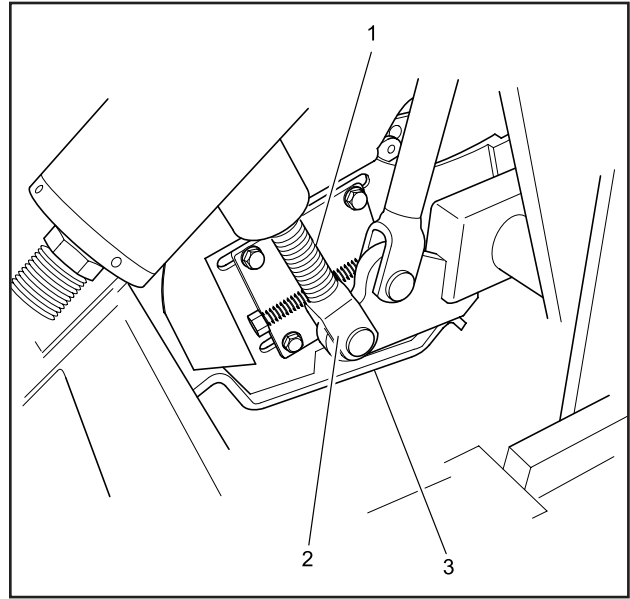
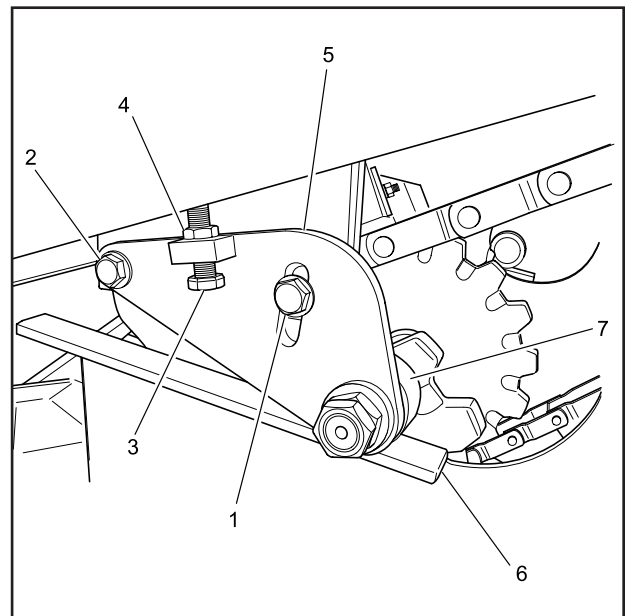

FIGURE 4-12. FEEDER ASSEMBLY ADJUSTMENT
FIGURE 4-13. ROLLER ASSEMBLY ADJUSTMENT
The feeder needs to be adjusted so that the weight of the feeder assembly is not resting on the moldboard (see Figure 4-12). The feeder should also be adjusted so that the roller (see Figure 4-13) is not touching the moldboard. Perform adjustments as follows:
2. Refer to Figure 4-12 and adjust nut (1) to remove the weight at the roller (2), from the moldboard (3).
3. Refer to Figure 4-13, and loosen bolts (1) and (2).
4. Loosen the jam nut (4).
5. Using a pry bar, raise roller end of bracket (5) so that roller (7) is about 1/2 inch clear of rail (6).
6. Tighten bolt (1) securely to attach bracket (5) in place.
7. Adjust bolt (3) to just touch frame.
8. Tighten jam nut (4) securely to fasten bolt (3) in position.
9. Tighten bolt (2) securely.